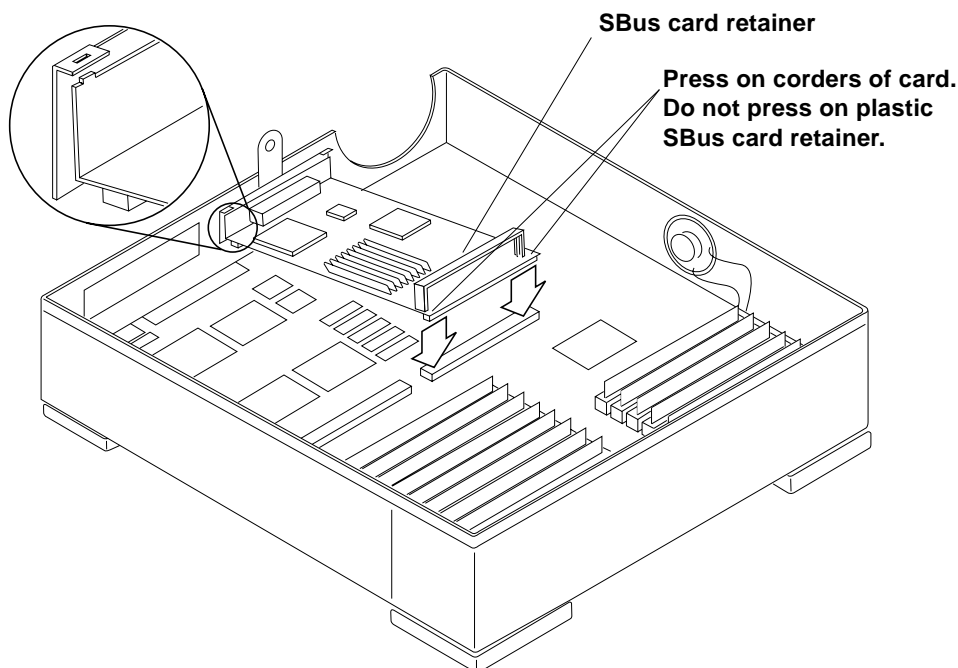

Figure 4-6 Installing an SBus Card
**4. Slide the SBus card at an angle into the back panel of the system unit (see the Figure 4-6).**